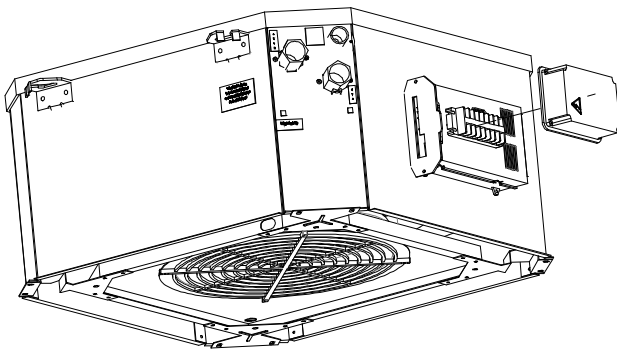

Figure 1
- Do not lift unit by the condensate drain discharge pipe or by the water connections; lift it by the four corners.(Figure 1)